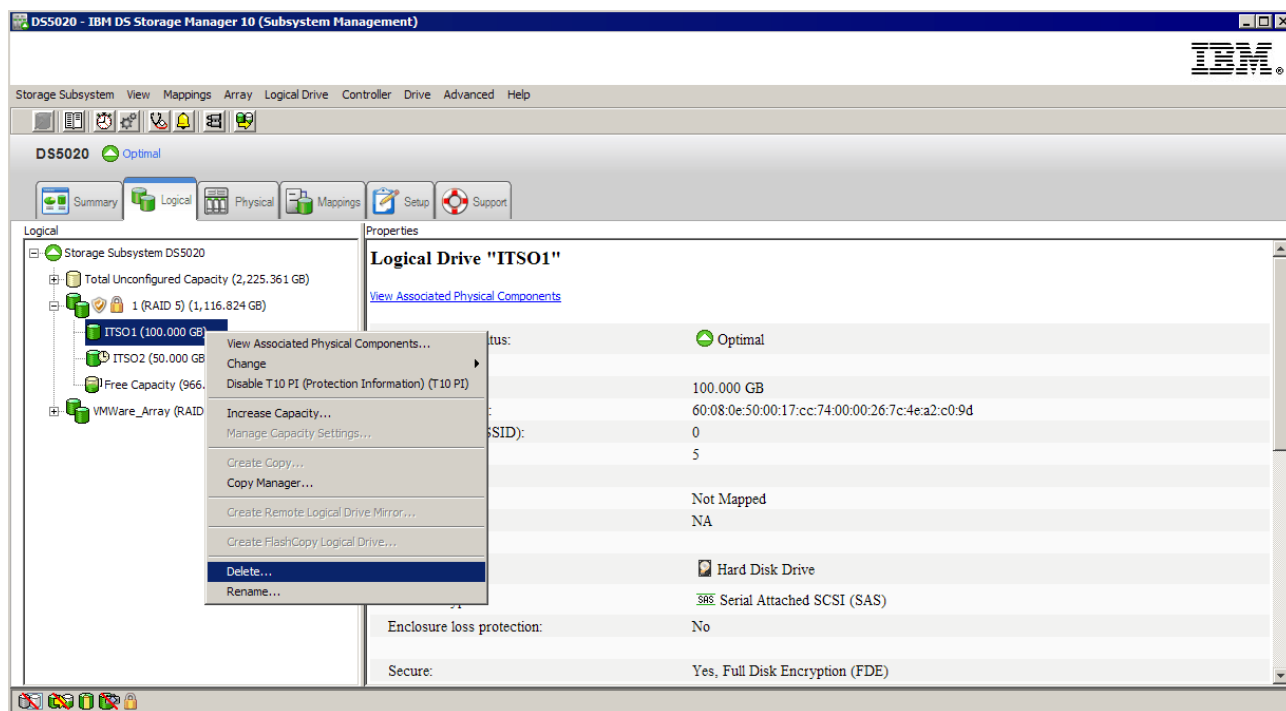

Figure 3-115 Selecting a logical drive to delete
1. Select the logical drive, right click and select **Delete** as shown in Figure 3-115.